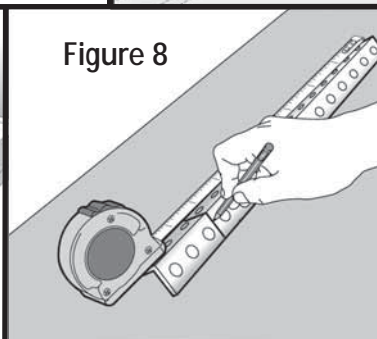
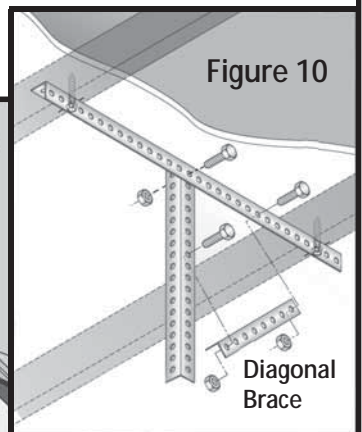

Figure 8
Figure 10
Step 3: Mark and cut a piece of hanger angle to span the distance between the ceiling joists/beams plus 4" (Fig 8/9).
Step 5: Measure the distance from the bottom of the Horizontal Track to the top of the Hanger Angle (Fig 7). Mark and cut a piece of Hanger Angle this distance (Fig 8/9).
Step 6: Mark and cut a short piece of Hanger Angle to form a 45° brace (Fig 8/9/10). Securely fasten the Hanger Angles using (3) 3/8"x1-1/2" Machine Bolts and (3) 3/8"-16 Hex Nuts as shown in Figure 10.